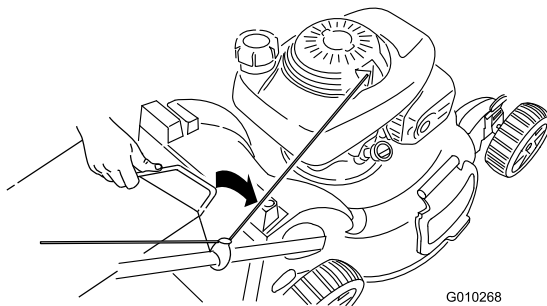

Figure 33
3. Insert the grass bag handle into the grooves at the top of the mower (Figure 33).